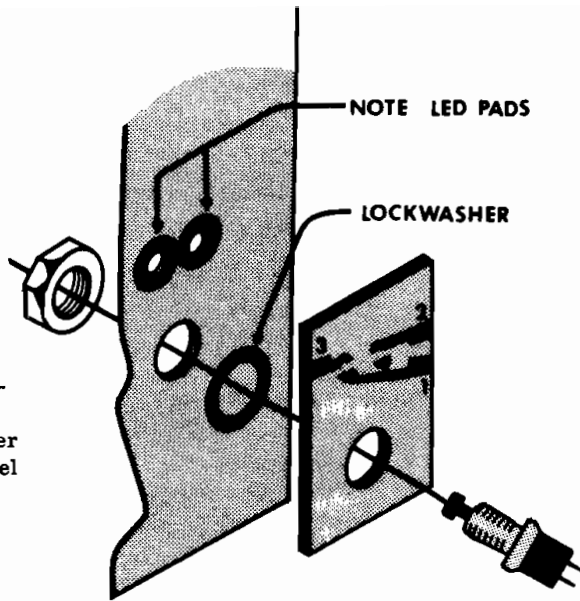

Figure 3
- () Peel the cardboard backing from the two black dots provided. Mount the dots over the LED holes on the back of the front panel as shown in detail figure 3.
- () Mount the LED circuit board 4740-"B" to the front panel using the pushbutton switch, the nut, and lockwasher supplied with it as shown in detail figure 3. Align the two LED's with the two small holes in the front panel then tighten the nut firmly. DO NOT USE EXCESSIVE FORCE.